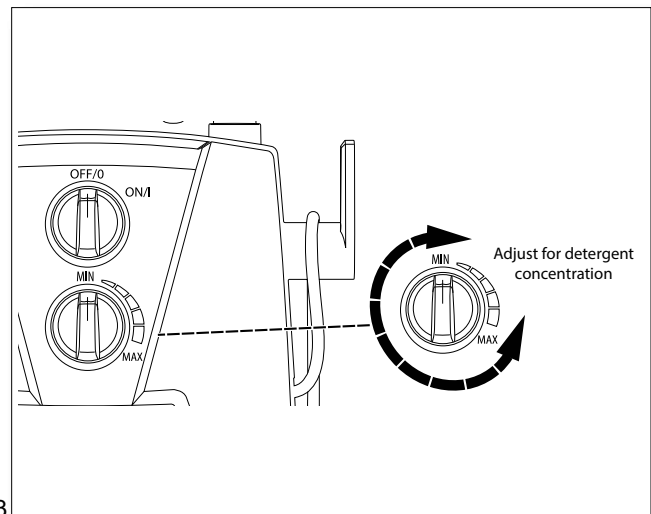

Fig. 14
- The power washer will pull a ratio of water to detergent of 10:1 or 10 parts water to 1 part detergent. The detergent concentration can be adjusted by turning the detergent knob on the front of the machine. Turn it right for more concentration or turn it left for less concentration. (**Fig. 14**)